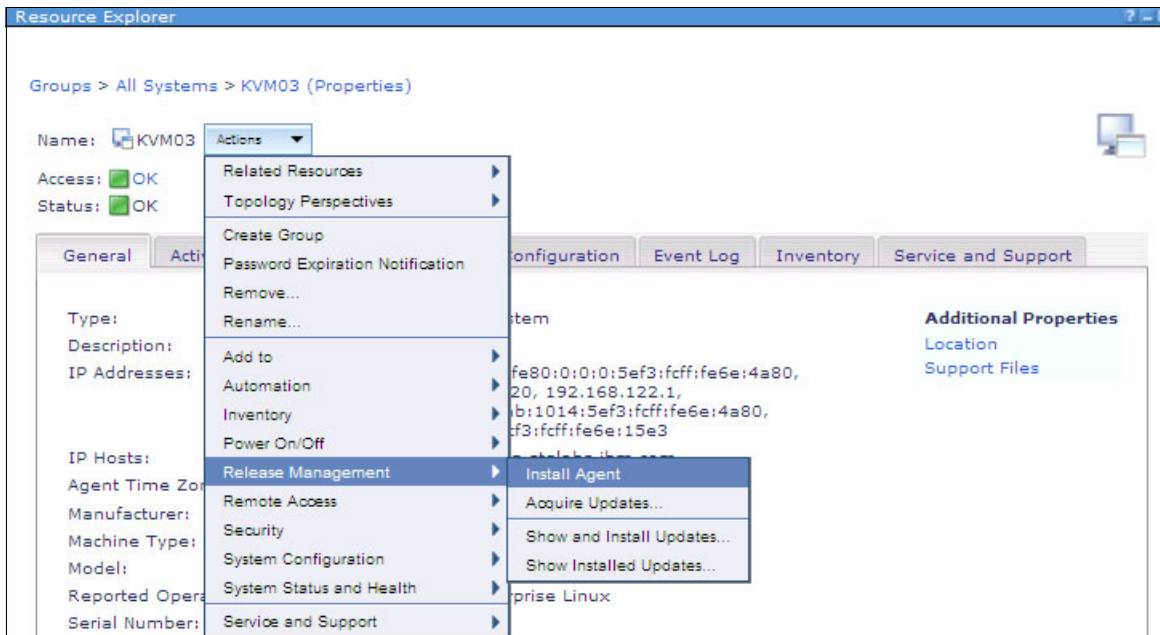

Figure 9-32 Installing the VMControl image repository subagent
2. Click **Actions** → **Release Management** → **Install Agent** as shown in Figure 9-32.